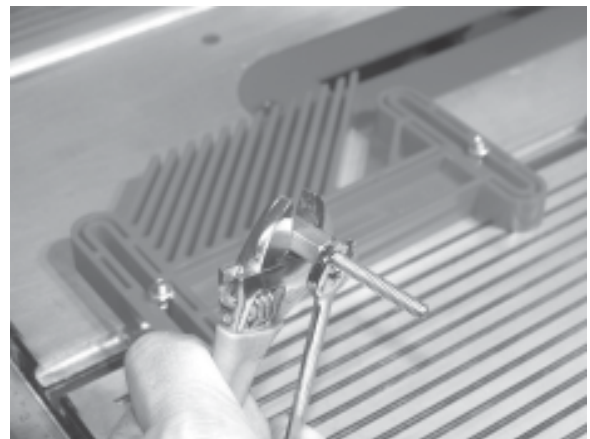

Figure 5
6. Thread the Stud with Nut into a Coupling Nut. Thread the short end of the stud into the coupling nut until the Nut contacts the end of the Coupling Nut. Tighten the Nut against the end of the Coupling Nut with two wrenches, see Figure 5. Repeat this for the other Stud, Nut, and Coupling Nut combinations.